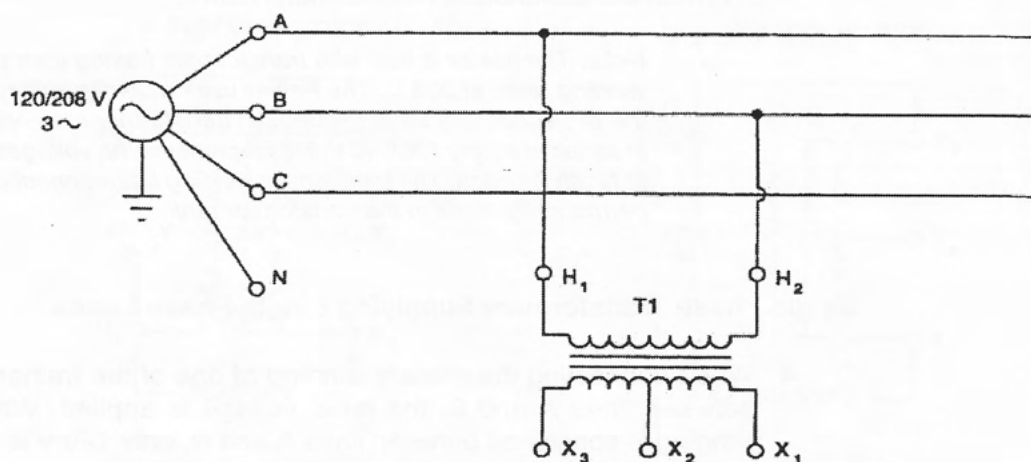

Figure 1-4. Single-phase transformer.
- ☐ 5. Connect the circuit shown in Figure 1-4 using transformer T1.